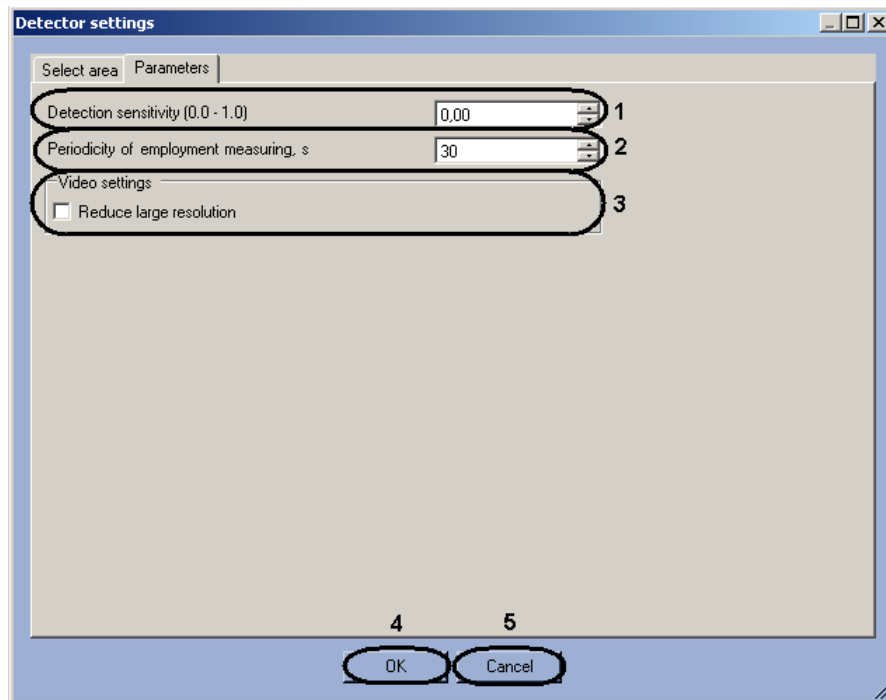

Fig. 6.1—6 Configuring the Queue length detector module parameters
- 4.3 In the **Period of activity sensing** field, enter a time period in seconds for counting the number of persons in the observed area (see Fig. 6.1—6, 2).
- 4.4 Set the **Reduce large resolution** checkbox to create and process the new frame consist of even lines of initial frame (see Fig. 6.1—6, 3).